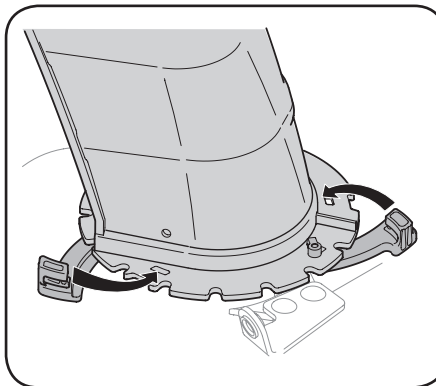

Figure 2-10
2. Close flange keepers to secure chute assembly to chute base. Flange keepers will click into place when properly secure. See Figure 2-10.